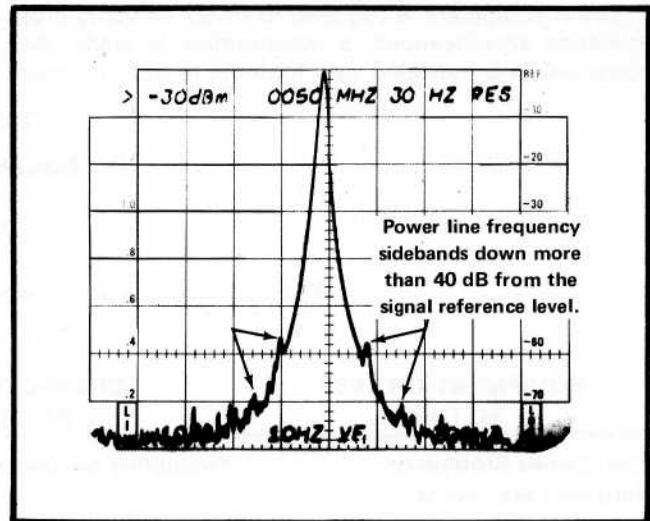

Fig. 3-5. Illustration to show how FM'ing is measured with a resolution bandwidth of 30 Hz.
e. Switch the display mode to 10 dB/DIV. Check the FM'ing for each sweep. 10 Hz is only a trace width at 200 Hz/DIV; however, FM'ing can be checked by noting that the line frequency sidebands are down at least 40 dB from the reference level. See Fig. 3-5.